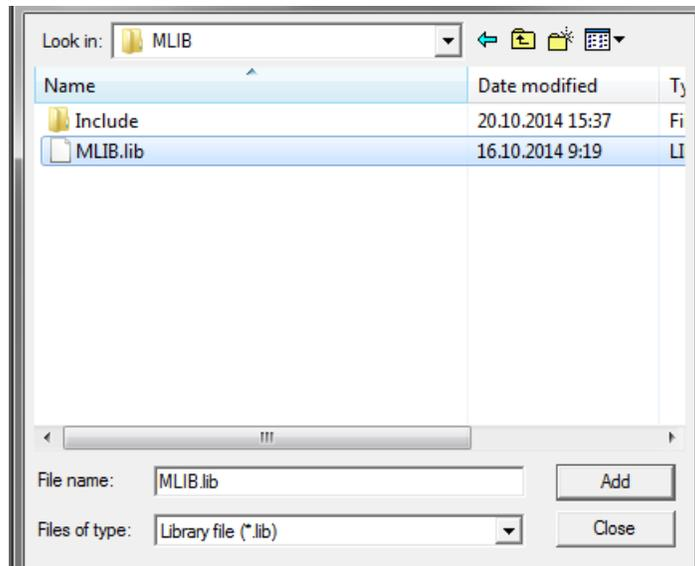

Figure 1-35. Adding .lib files dialog
5. Navigate to the parent folder C:\NXP\RTCESL\CM7F_RTCESL_4.5_KEIL\MLIB, and select the *mlib.lib* file. If the file does not appear, set the Files of type filter to Library file. Click Add. See Figure 1-35.